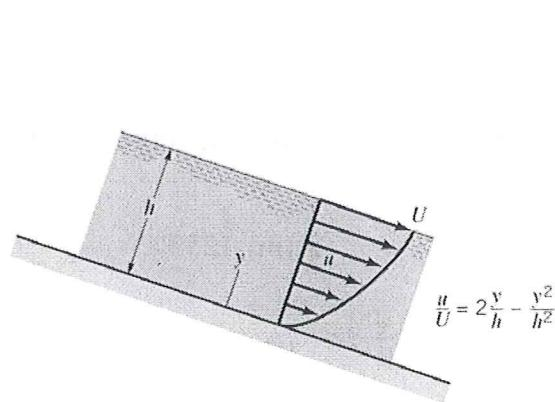

Figure 2
2. A layer of water flows down an inclined fixed surface with the velocity profile shown in figure 2. Determine the magnitude and direction of the shearing stresses that water exerts on the fixed surface for $U = 3 \text{ m/s}$ and $h = 0.1 \text{ m}$.